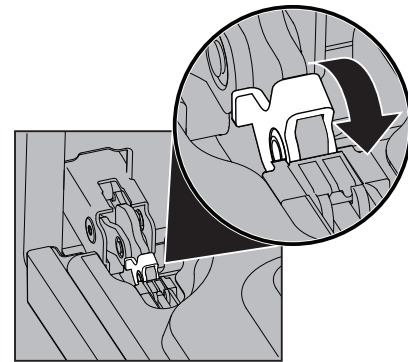

Figure 23: Door hinge lock
2. Pull up the lock located on each hinge support toward front of the oven until the lock stops. You may have to apply a little upward pressure on the lock to pull it up (Figure 23).
4. Push the door hinge locks up toward and into the oven frame on both left and right oven door hinges to the locked position (Figure 23).